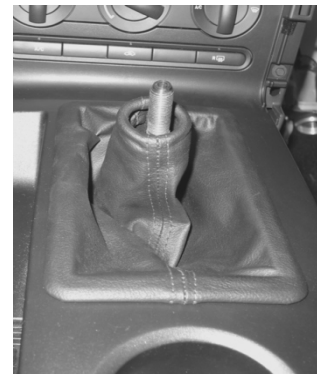

Figure 1
1. Remove the shifter boot. See FIGURE 1.